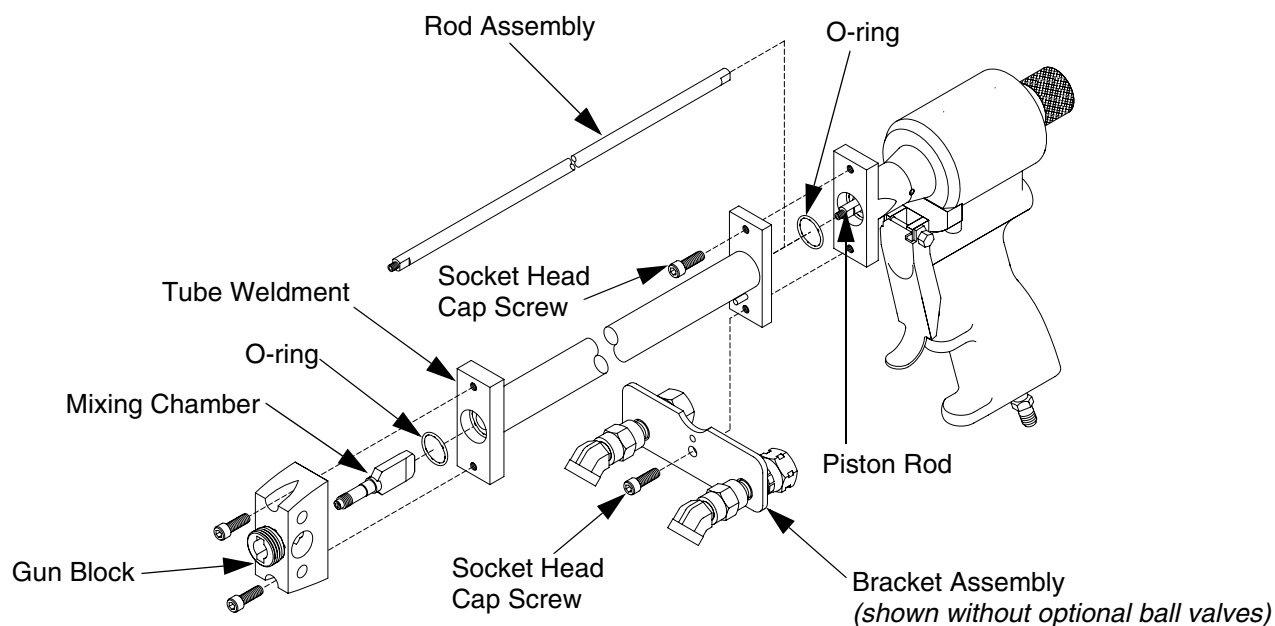

FIG. 3: Hose Bracket Fitting Installation
assembly onto it. Use another 3/16 in. open end wrench on flat end of rod assembly to secure it to piston rod. See FIG. 3.
9. Install tube weldment and hose bracket assembly. Verify o-ring is seated in cavity and slide tube weldment over rod assembly toward gun. Line up bracket assembly with alignment pin on tube weldment. Install mounting screws as show in FIG. 3. Tighten screws equally to prevent leakage.
10. Install o-ring in end of tube weldment. See FIG. 3.
11. Use 3/16 in. open end wrench to hold flat end of rod assembly. Thread mixing chamber onto end of rod assembly by hand until tight. See FIG. 3.
12. Slide gun block over mixing chamber toward gun. Install gun block mounting screws. Tighten screws equally to prevent leakage. See FIG. 3.